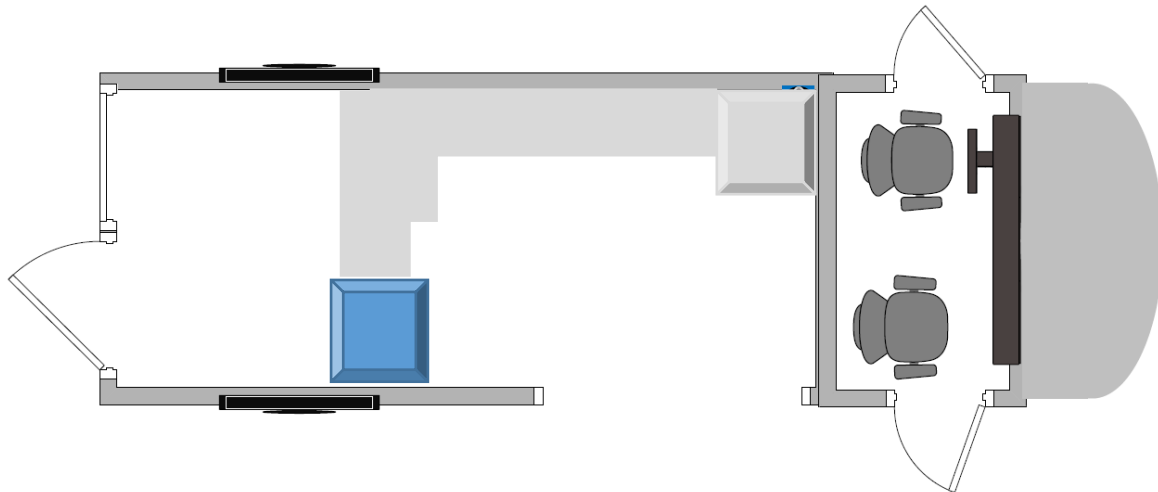

Figure 4 (Blue)
11.	24 x 24 x 72" (Maximum) Server Rack. Mounted to the wall and roof. Opposite to the Battery Area. (See Appendix B – Figure 4).